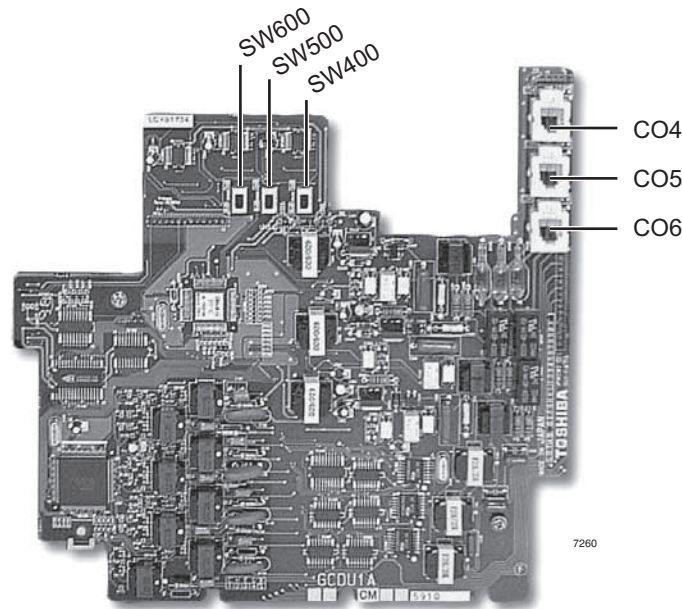

Figure 1-11 GCDU1A PCB
- Carefully place the GCDU1A pins over the GMAU connectors (see Figure 1-6 and Figure 1-11). Press down on the PCB to secure the pins to the connectors (see Table 1-10).